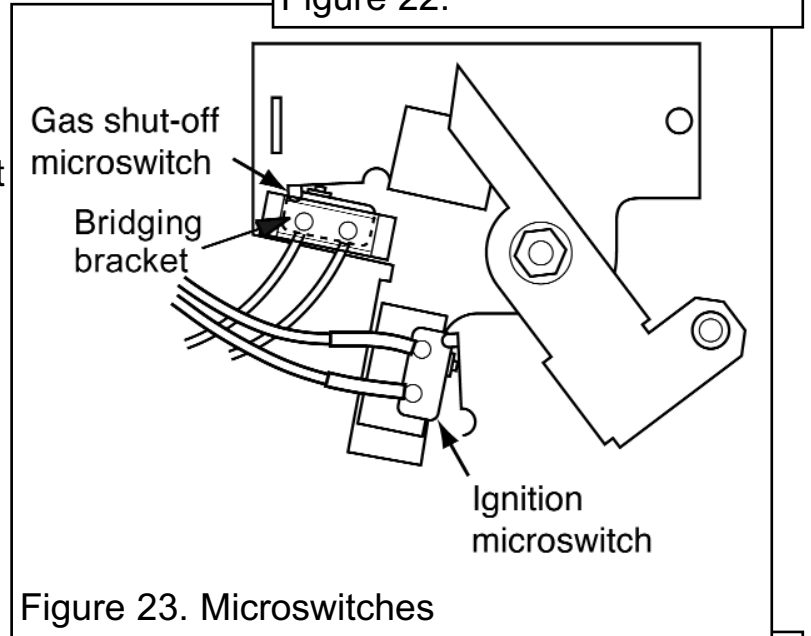

Figure 23. Microswitches
(See figures 23 & 24).
2. Disconnect the leads from the ignition microswitch (The lower of the two microswitches - See figure 23).
3. Detach the bridging bracket, microswitch assembly by removing two screws (See figure 23).